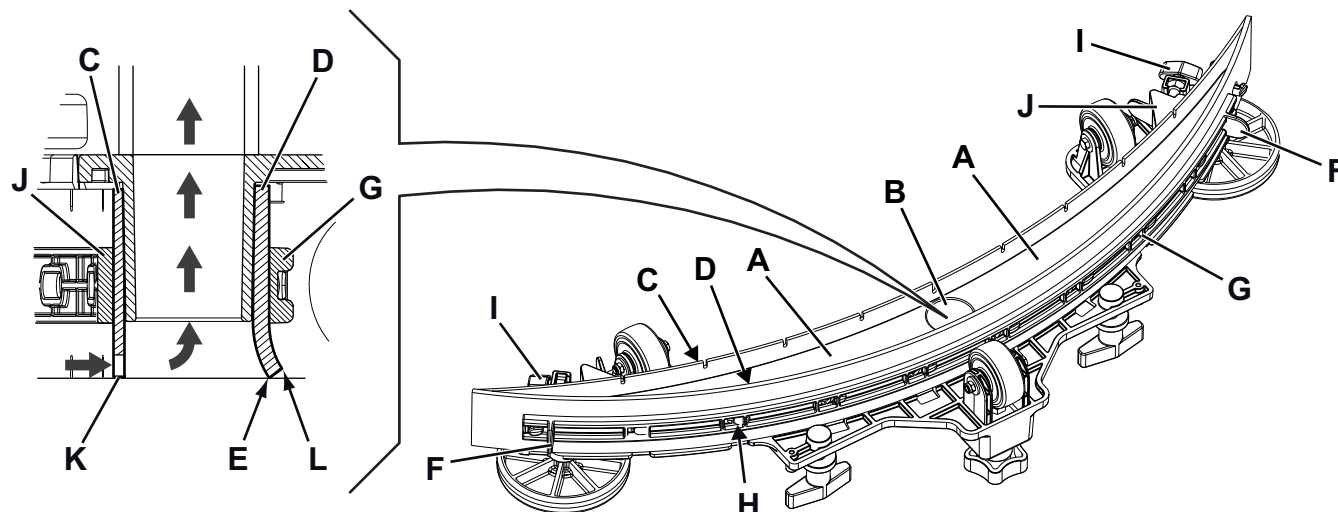

Figure 10
2. Ensure that the machine is off and the operator key (41) has been removed.
3. Loosen the handwheels (32) and remove the squeegee (13).
4. Wash and clean the squeegee. In particular, clean the compartments (A, Fig. 10) and the vacuum hole (B). Check the condition of the front (C) and rear (D) blades, ensuring there are no cuts and tears; if necessary, replace them as shown below.
2. Check the condition of the front (C, Fig. 10) and rear (D) blades, ensuring there are no cuts and tears; if necessary, replace them as shown below. Check that the front corner (E) of the rear blade is not worn; otherwise, turn the blade to replace the worn corner with one of the three remaining intact corners. If the other corners are worn too, replace the blade according to the following procedure:
- Using the tab (F), release and remove the elastic strap (G) from the fasteners (H), then turn or replace the rear blade (D).
- Unscrew the handwheels (I) and remove the strap (J), then turn or replace the front blade (C).
3. Install the squeegee (13) and screw down the handwheels (32).
- Check that the lip (K) of the front blade (C) and the lip (L) of the rear blade (D) are resting as shown in the figure.
- Use the knob (33) to make adjustments.